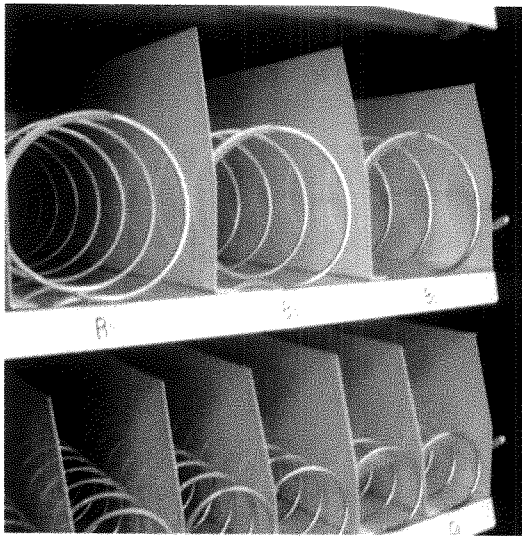

Figure 9 – Push the lever down
- Hold the lever down (*reference figure 9*) and pull the product tray out towards you.